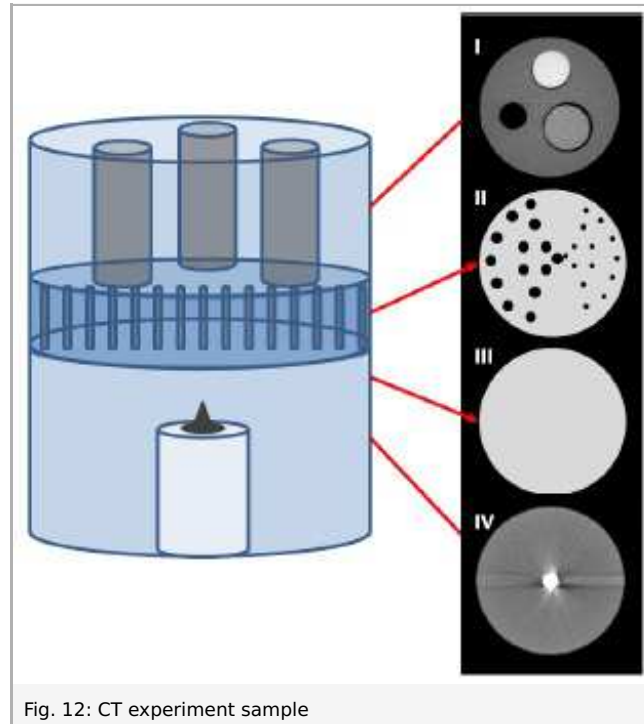

Fig. 12: CT experiment sample
- Find the slice in the centre of the object that looks like Fig 12.II.
- Change the exposure time to 0.5 sec, calibrate again and do again a scan with 200 projections. Find the slice that corresponds with fig 12.III, open the viewer and save the slice as bin250_200_500.
- Go to the reconstruction page and select the slice that corresponds to fig 12.II.